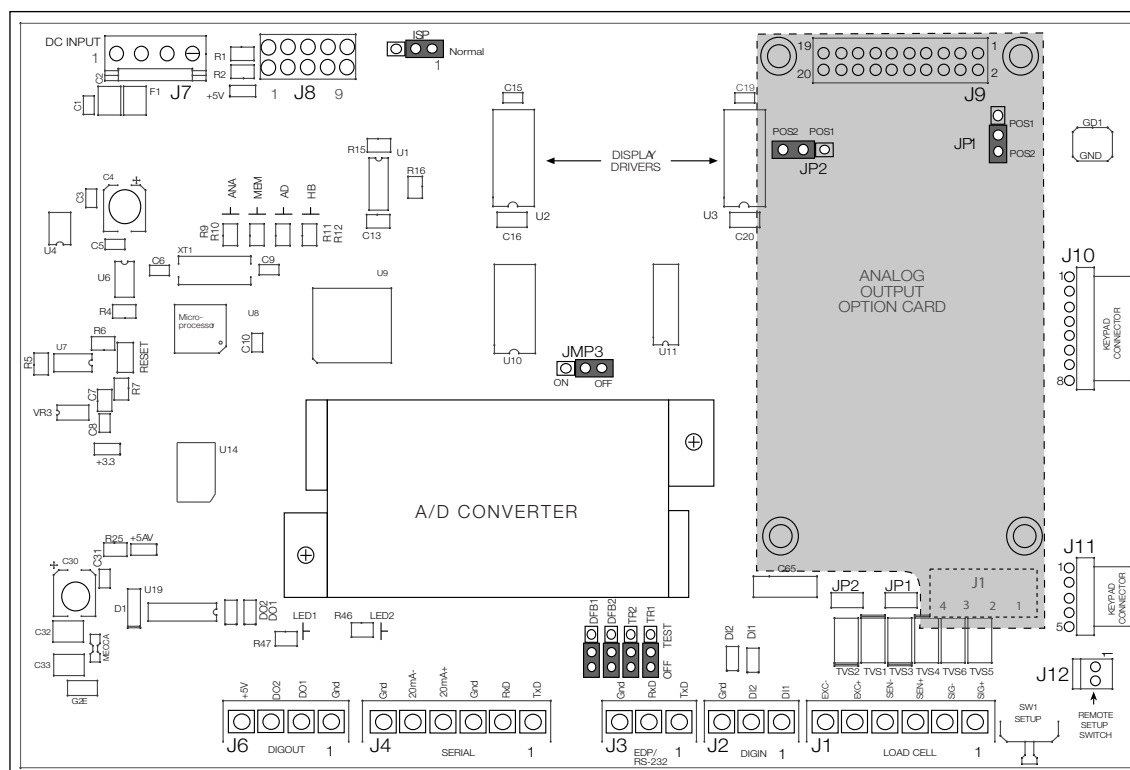

Figure 4-10. CPU and Power Supply Board with Analog Output Option Card
4. Unplug connectors J1 (load cell cable), J2 (digital inputs), J3 (EDP/RS-232), J4 (serial communications), J6 (digital outputs), and J10 & J11 (keypad ribbon cables). If an analog output board is installed, disconnect the analog output cable. See Figure 4-10 for connector locations.